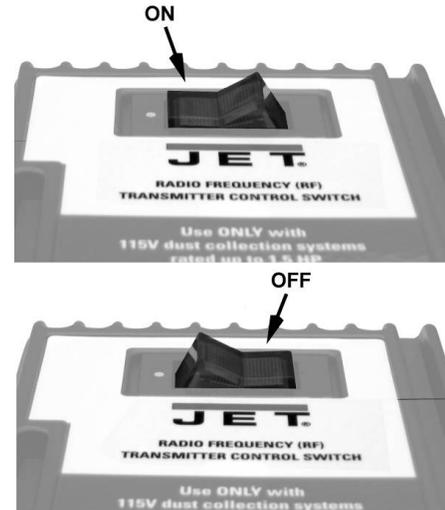

Figure 2
2. On the *main unit* (Figure 2) place the switch to the *ON* position. The red LED on the main unit should light up.
When the machine is running, it can be stopped by placing the switch on the main unit (Figure 2) in the off position. To restart, repeat steps 2 and 3.